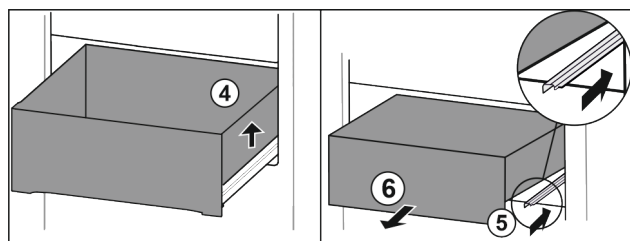

Fig. 88
- Lift drawer on the right. Fig. 88 (4)
- Insert right rail. Fig. 88 (5)
- Remove drawer to the front. Fig. 88 (6)